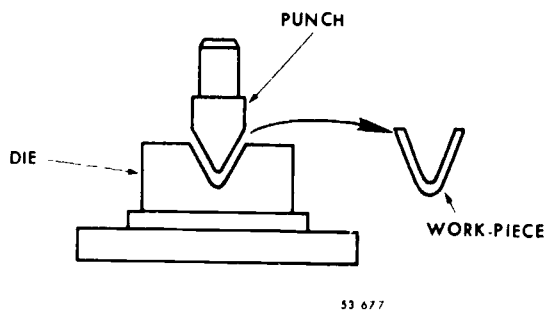

Figure 1-23 Bending die
**Bending and forming.** Bending and forming dies are made in great variety and operate on all classes of work. As the name implies, this operation forms or bends the blanks. A simple form of bending die is illustrated in figure 1-23. The outline of the bend, which is to be imparted to the blank, is formed on the punch and die. Quite frequently, when more intricate forms are required, the work is passed through two sets of dies, one for starting the outline and the other for completing the work.